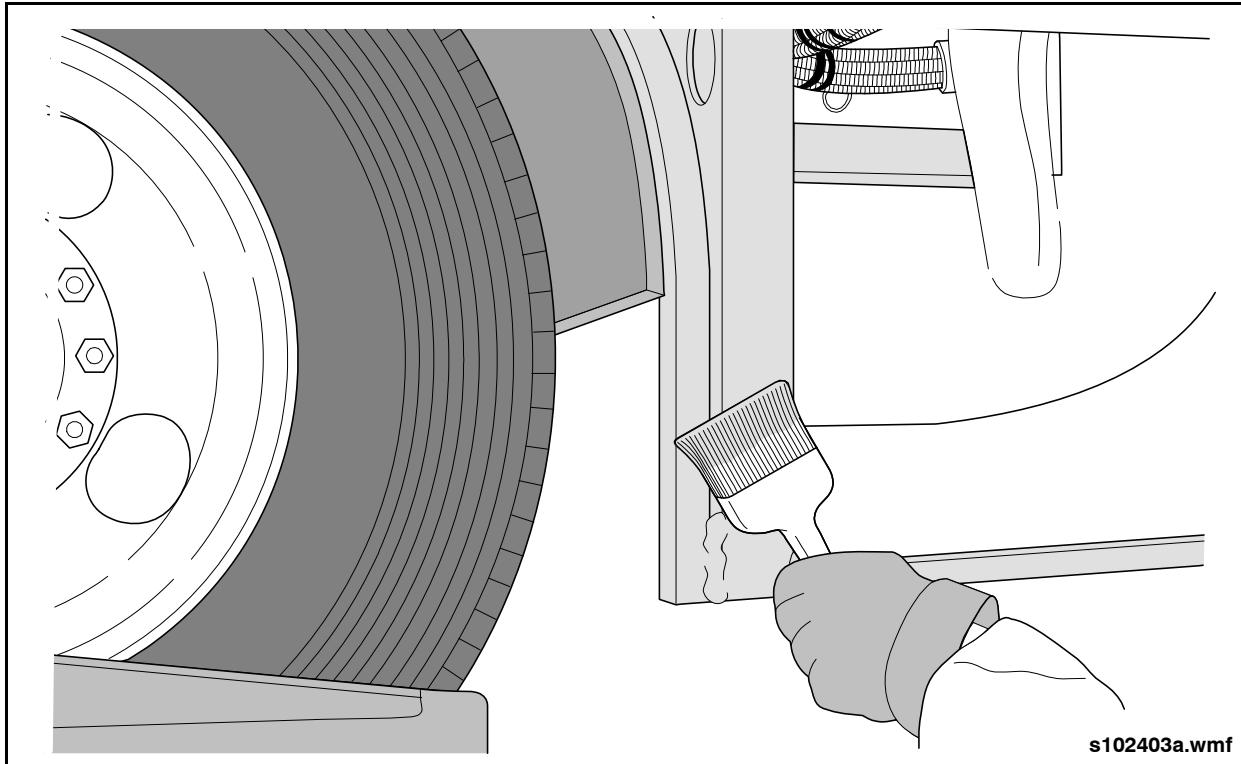

Fig. 11-3: Primer Application
3. Apply primer using a brush or appropriate spraying equipment. Wet film thickness should be 6.5 mils. This will result in a dry film of 3.0 to 4.0 mils. Film thickness is important to ensure adhesion and corrosion protection. See "Fig. 11-3: Primer Application" on page 13.